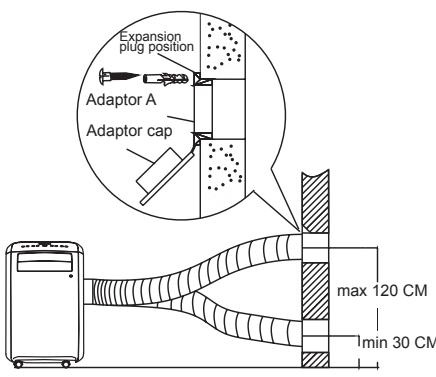

Fig. 19
1. Prepare a hole in the wall. Install the wall Exhaust adaptor A onto the wall (outside) by using 4 expansion plugs and wooden screws, be sure to fix thoroughly. (See Fig.19)